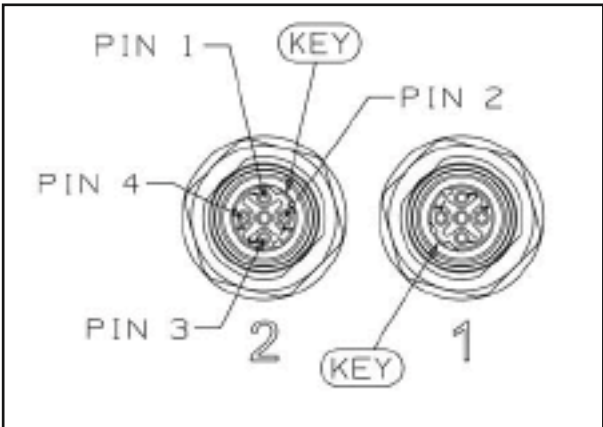
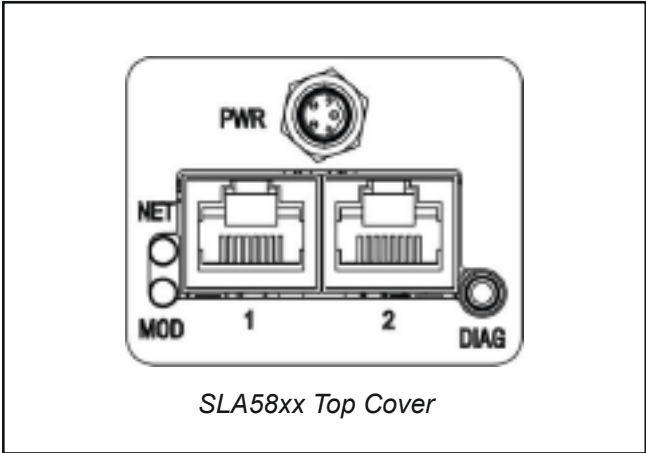

Figure 4-1 Pin Labeling of M12 Female Connectors (2 per device)
Figure 4-4: EtherNet/IP Top Cover
- In and Out M12 threaded female connectors labeled “1” and “2” for Ethernet/IP™ Communications (Figure 4-1).
The available physical interfaces on the EtherNet/IP™ SLA5800 device are listed below (Figure 4-4):
As noted in the Physical Interface Sections, above, each SLAMF EtherNet/IP™ device has (2) M12 4 Pole, Female “D” Coded Connectors (Figure 4-1) labeled 1 and 2. And each SLA5800 Series EtherNet/IP™ device has (2) RJ-45 Ethernet Connection ports labeled 1 and 2 (Figure 4-4). Network connections can be made to either or both ports, depending on the network topology. The SLA5800/MF Series EtherNet/IP™ device will support star, linear and DLR (Device Level Ring) topologies. Copy and paste the following link into your web browser for more detailed information on EtherNet/IP™ topologies and their implementation: